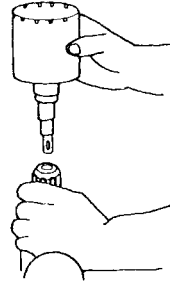
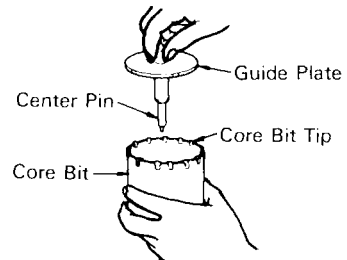

Fig. 14
Fig. 15
- (2) Mount the core bit shank to the rotary hammer. (Fig. 14)
- (3) Insert the center pin into the guide plate until it stops.
- (4) Engage the guide plate with the core bit, and turn the guide plate to left or right so that it does not fall even if it faces downward. (Fig. 15)